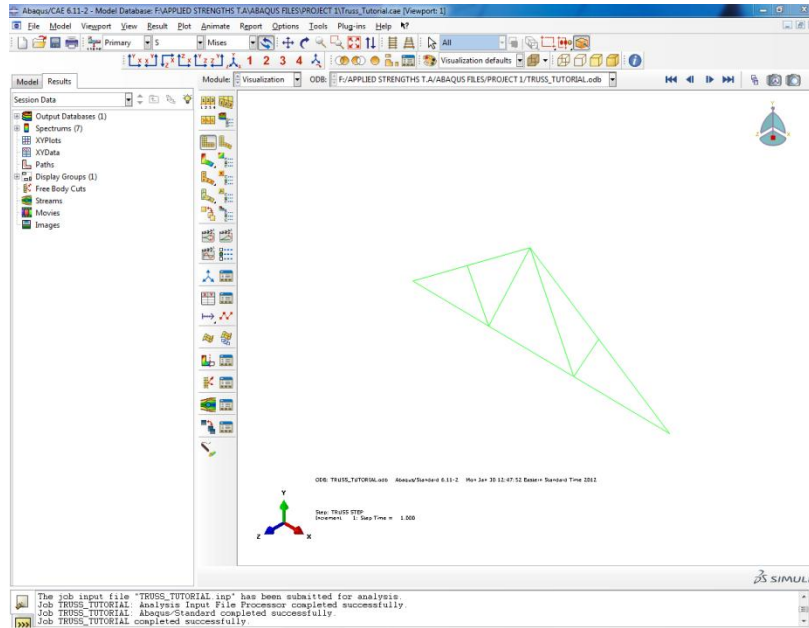

Figure 36. Analysis Results Isometric View
- If this selection was done correctly, the model should turn to a green color and the truss will have rotated to an isometric view (Figure 36).